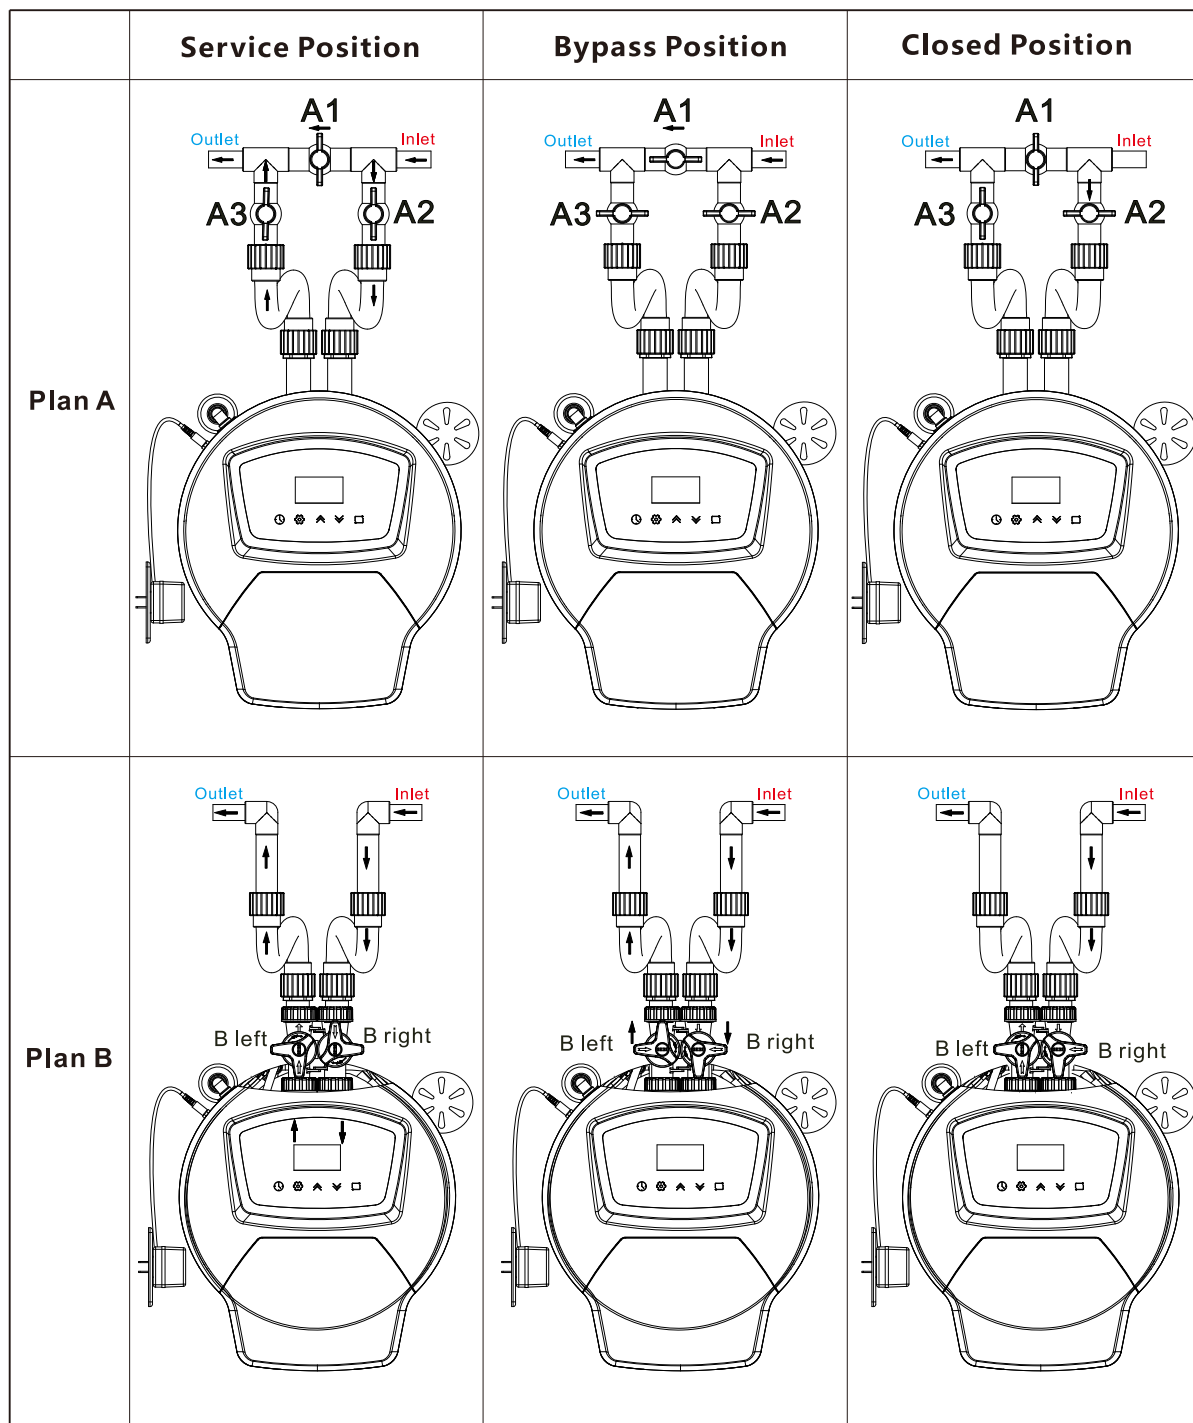

Figure 2
Rotate the bypass valve handles and three kinds of positions can be achieved. Please refer to Figure 2.
- 4) Refer to figure 2, rotate A2 inlet of bypass valve to semi-open. If customized bypass valve is used, inlet of bypass valve handles should be adjusted to B right.